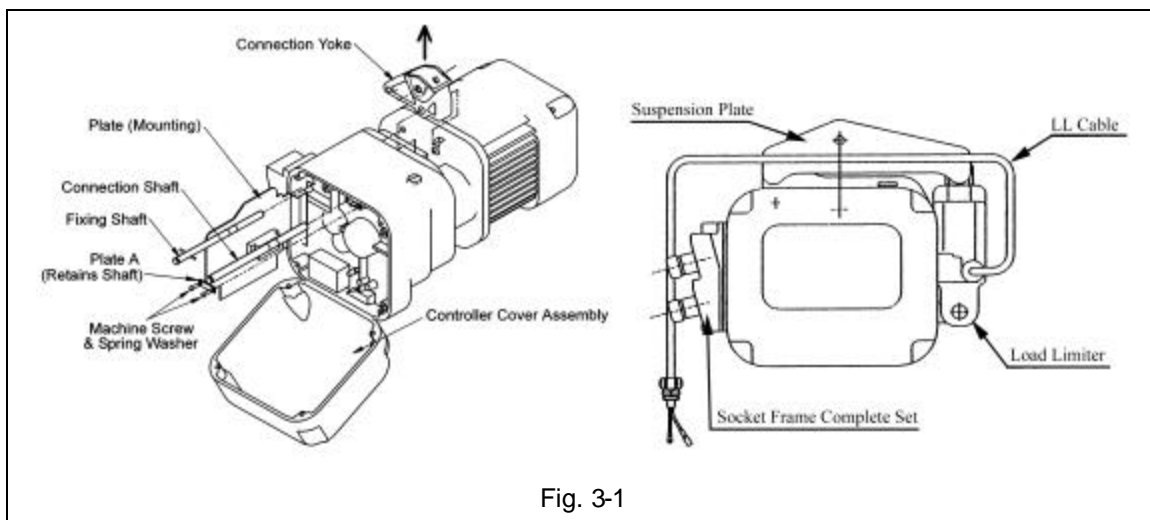

Fig. 3-1
- 1) Refer to Figure 3-1.
- 5) Refer to Figure 3-1 and locate the LL Assembly as shown. Line up the holes (LL Assembly and Connection Shaft holes) and re-install the Connecting Shaft. Reinstall the Hoist Fixing Shaft. Note, the Fixing Shaft does not pass through the LL Assembly.
- 7) Pass the LL Cable over the hoist body on the control cover side of the suspension plate as shown in Figure 3-1. Keep the electrical component mounting Plate free and control cover open for the installation of the Socket Frame Holder L and to make the necessary electrical connections.
- 5) Pass the LL Cable over the hoist body on the control cover side of the suspension plate as shown in Figure 3-1. Keep the electrical component mounting Plate free and control cover open for the installation of the Socket Frame Holder L and to make the necessary electrical connections.